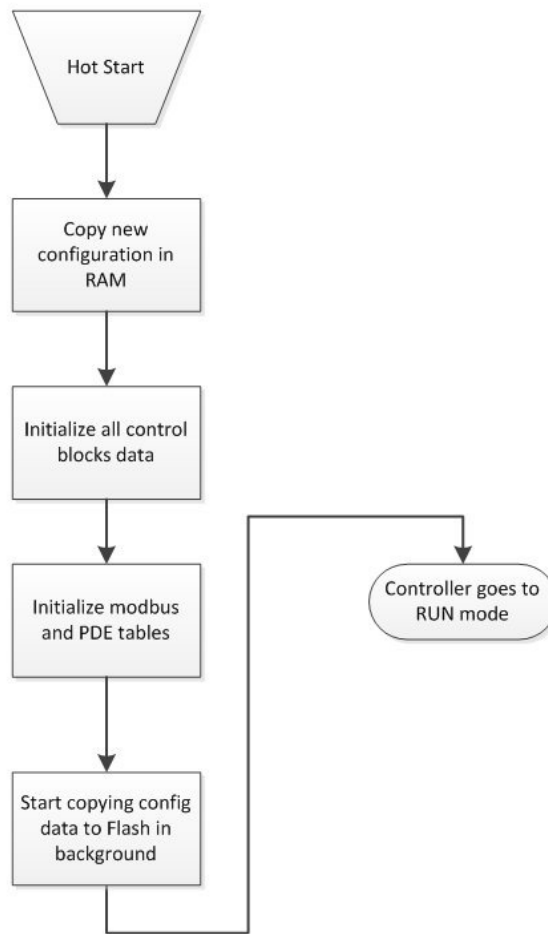

Figure 83 – Warm Start Operation
A Warm Start is a restart of the control strategy using dynamic data that is stored in battery backed RAM to allow control action to resume exactly as it was before the restart. In the Warm Start procedure (flowcharted in the main flow of Figure 83), diagnostic testing proves the integrity of the hardware, software, and configuration database resulting in an automatic Warm Start of process control. Control action is resumed exactly as it was before the outage.
- After a power outage, when diagnostics indicate that the controller hardware and software program are intact, but the content of the RAM database is incorrect. (See Figure 83.)